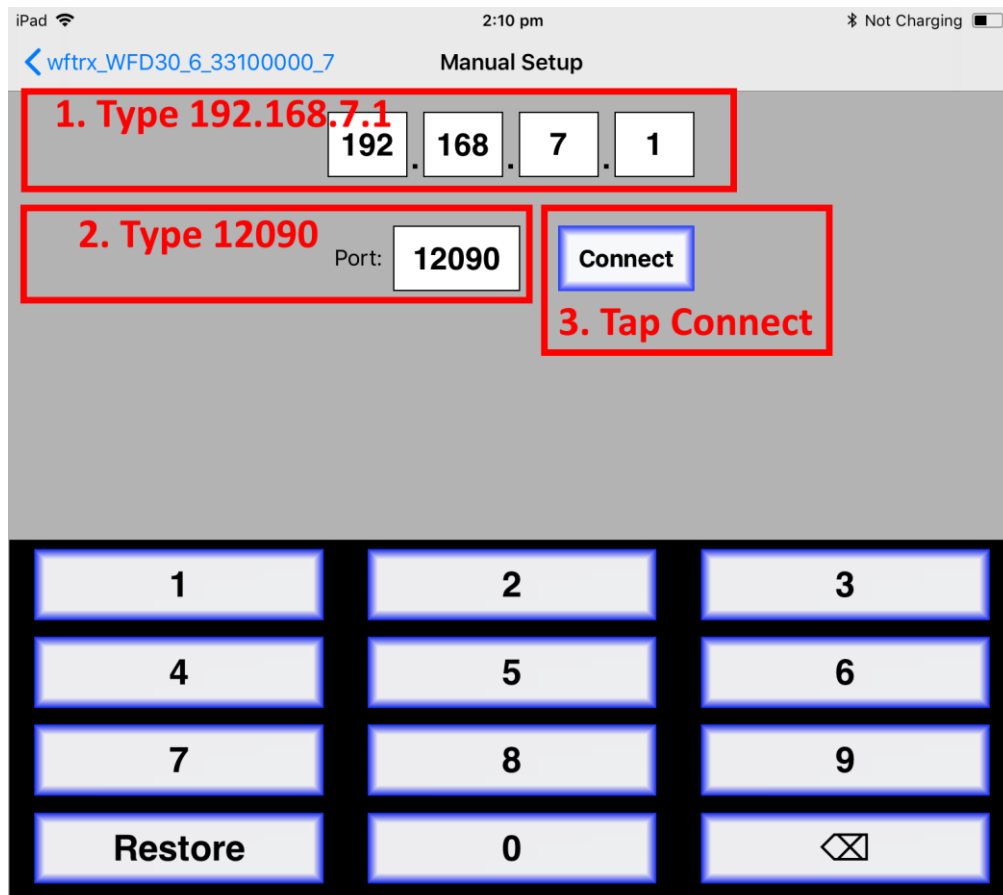

Figure 8 Connect manually if needed
- (9) If for some reason there is nothing in the “Available WiThrottle Servers” list, tap “Configure” or “Search for Wi-Fi Modules” and follow a. or b. below.
- Configure: The WFD-31 always has the IP Address 192.168.7.1 on its own access point, so type this IP Address. Then type 12090 into the Port textbox and tap the Connect button as Figure 8. The green network LED on your WFD-31 should now flash regularly to show that the UWT-100 is communicating with it.